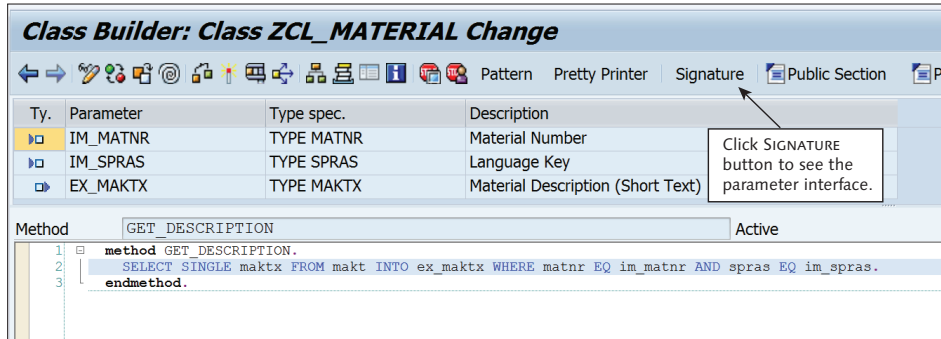

Figure 7.29 Writing Code in Method
12. This will open the editor, in which you can write the code between `METHOD` and `ENDMETHOD`, as shown in Figure 7.29. You can also click the **SIGNATURE** button to see the parameter interface. Click the **ACTIVATE** button to save and activate your changes.